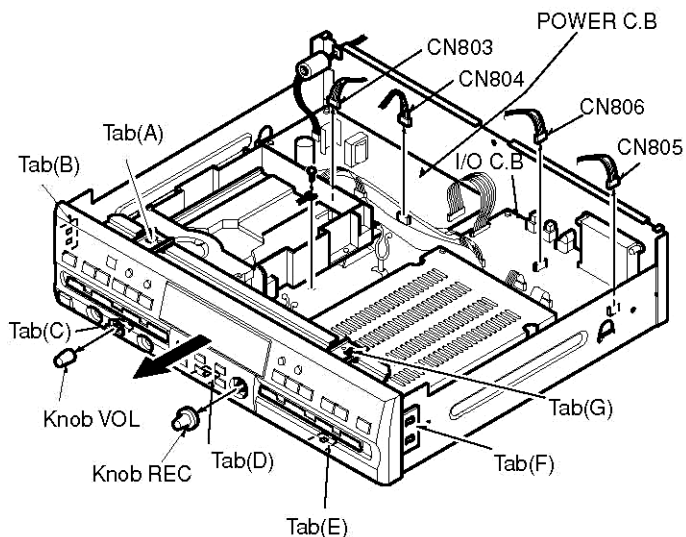

Fig. 3
- 4) Release CN803 from CD-P C.B and release CN803, CN804 from POWER C.B, AND release CN805, CN806 from I/O C.B. (See Fig. 3)
- 5) Release Knob VOL and REC and release 7 tabs (A- G), and then release Panel Front in the direction of the arrow. (See Fig. 3)